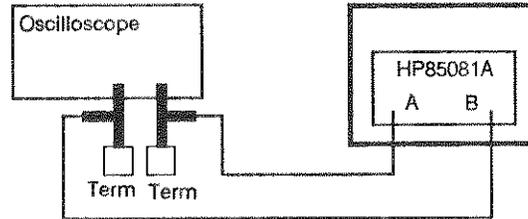

Figure 5-7. Symmetry Adjust Setup
1. Configure the equipment as shown in Figure 5-7.